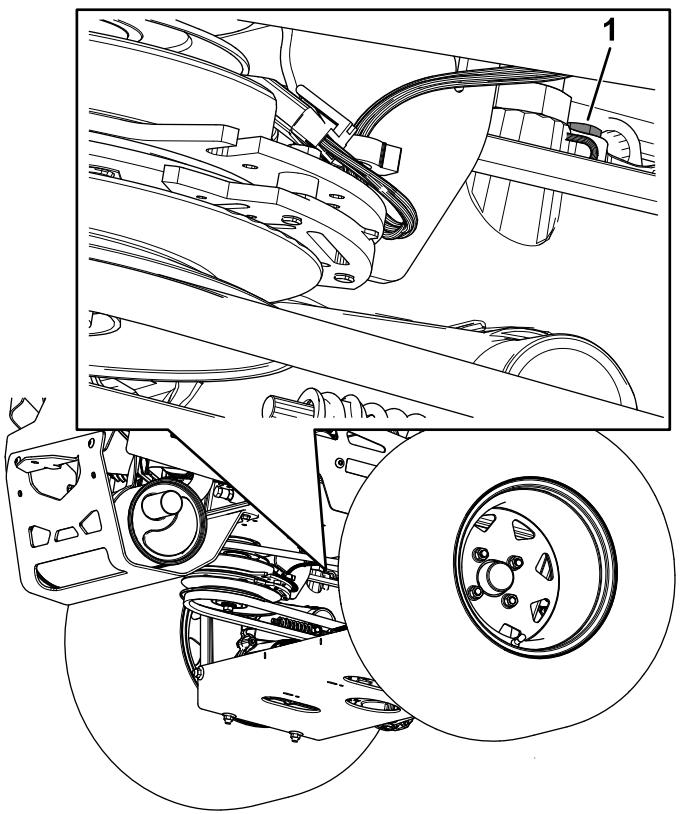

Figure 85
- For ZT 5400 Hydros, use a 7/16-inch wrench to access the vent plug from underneath the machine (Figure 85).